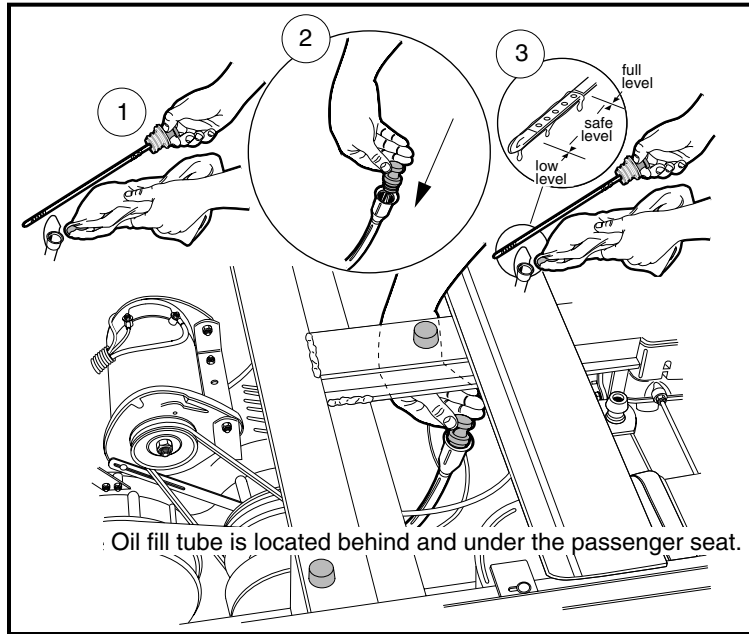

Figure 10-4 Check Engine Oil Level
1. Remove the oil level dipstick from the oil filler tube and wipe oil from the stick (**Figure 10-4, Page 10-7**). See following **CAUTION**.